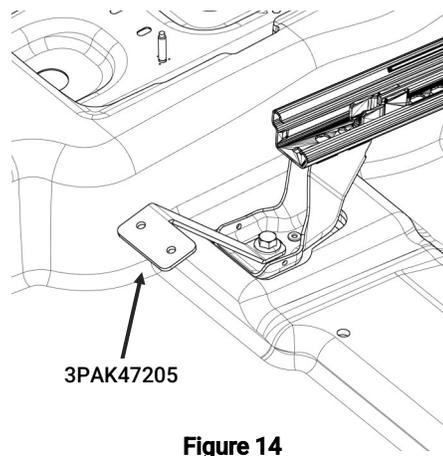

Figure 14
- Using a 13mm socket remove the rear inboard passenger seat bolt. Place the Inboard Support Bracket [3PAK472050] on top of the seat rail foot and loosely reinstall the bolt. Figure 14 shows the installed Inboard Support Bracket.